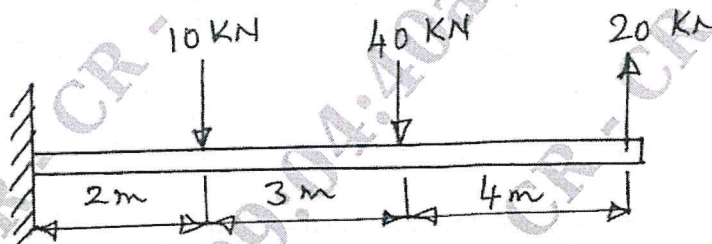

Fig. Q5 (a)
- 5 a. Draw the shear force and bending moment diagrams for a Cantilever subjected to forces as shown in Fig. Q5(a). (10 Marks)